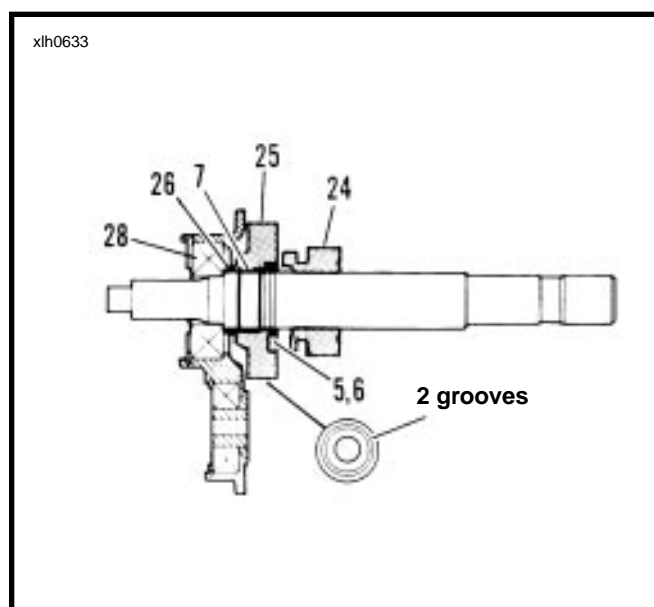
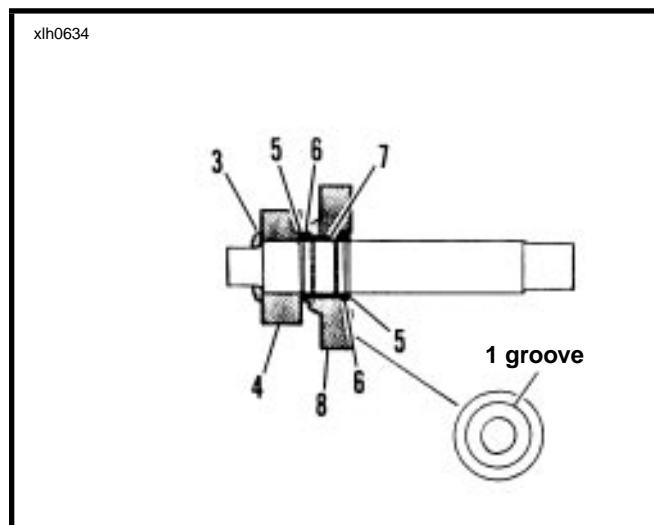

Figure 6-29.
Figure 6-30.
2. See Figure 6-29. Place spacer (26) over mainshaft and position next to bearing (28). Position split bearing (7) into machined seat next to spacer (26). Locate mainshaft 4th gear (25), which can be identified by the two radial grooves at one side. Slide gear (25) onto shaft with radial grooves facing door. Position gear over bearing next to spacer (26).
3. Install thrust washer (6) and retaining ring (5) next to gear (25). It will be necessary to push the retaining ring into final position with a screwdriver.
4. Slide mainshaft 1st gear (24) onto mainshaft with the locking dogs facing gear (25).
5. See Figure 6-30. Install retaining ring (5). Position retaining ring in the second ring groove from the end with internal threads. Install thrust washer (6) next to retaining ring. Install split bearing (7) in seat next to washer (6).
6. Locate countershaft first gear (8). Gear (8) has a ring groove at one side of the gear. Install gear (8) over split bearing (7).
7. Install thrust washer (6) and retaining ring (5) next to gear (8).
8. Locate countershaft 4th gear (4). This gear is splined and has a single radial groove at one side. Position gear next to retaining ring (5). Place beveled washer (3) over end of shaft with beveled side away from gear (4).